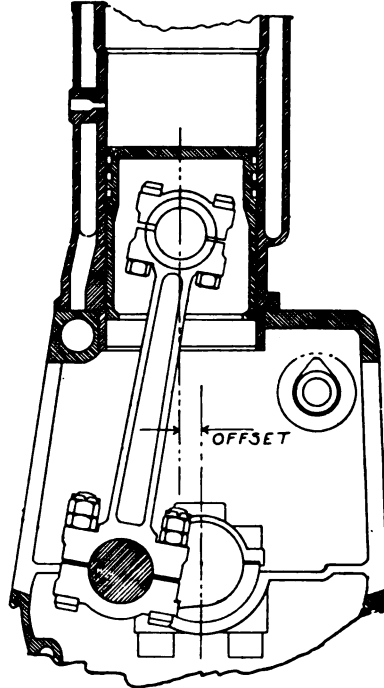

Fig. 32.
- 217 —** *The top and bottom centers must not be judged by the apparent vertical position of the connecting rod, due to the fact that in actual construction engines are given an "offset," that is, the center line passing through the cylinder does not pass through the center line of the crankshaft. Fig. 32 is a diagram showing an exaggerated condition of "offset."*